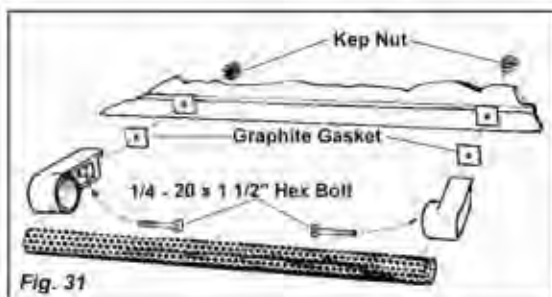

Fig. 31
Step 5: Connect the Handle (Fig. 31)
1. Attach the handle to the grill lid using two 1/4 - 20 x 1 1/2" Hex bolts with Kep nuts. Graphite Gaskets are positioned between the end caps and grill lid as shown in fig. 31. Use two 7/16" wrenches, one to hold the bolt head and one to tighten the nut.